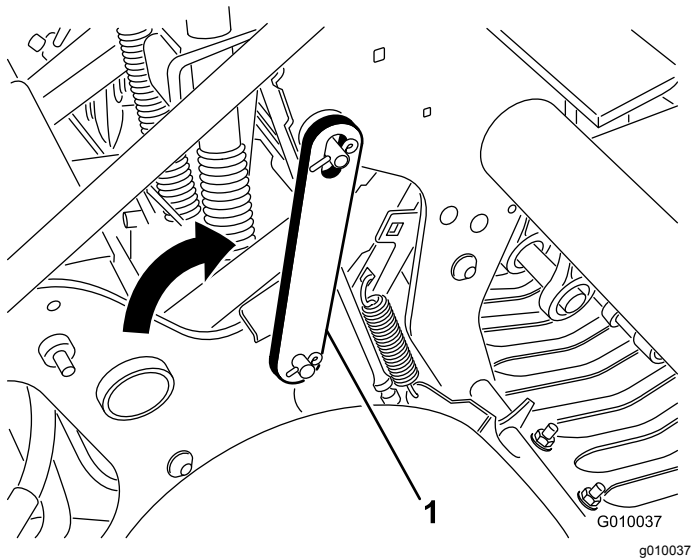

Figure 21
4. Pivot the service latch rearward and insert it onto the coring head pin (Figure 21). Secure the latch with the clip ring.